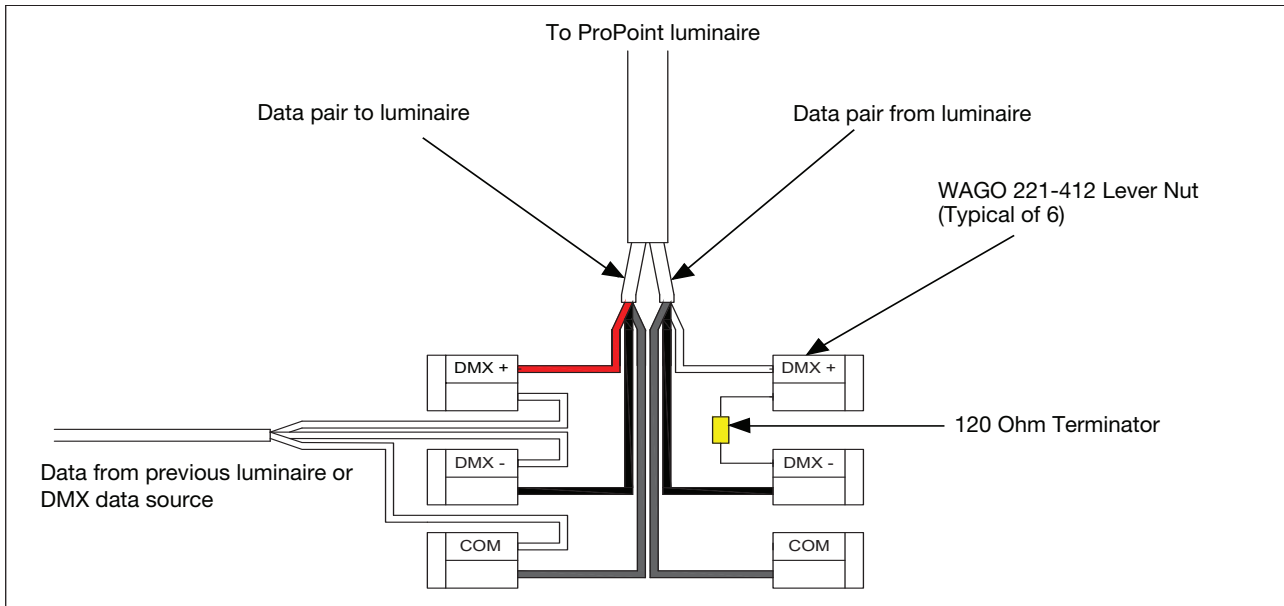

Figure 22 – DMX Termination Detail
5. Install the termination resistor (included in the termination kit) between the Data - and Data + conductors on the last unit in the control circuit. See Figure 22.